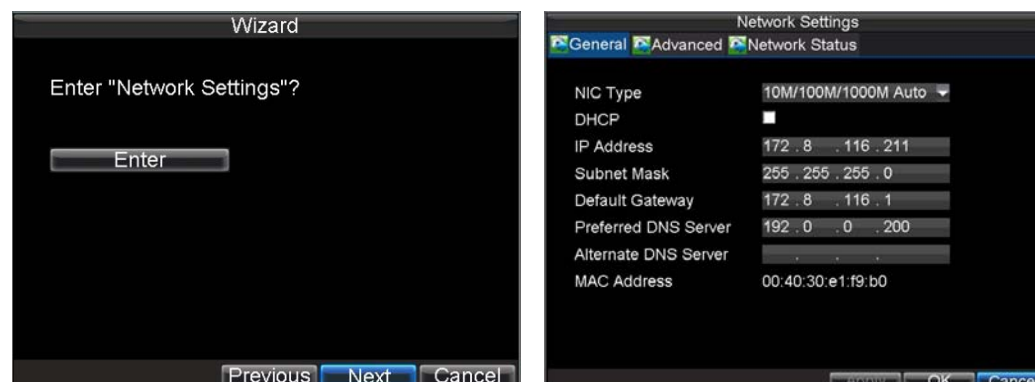

Figure 12. Network Settings
- 2) Click the Enter button to enter the **Network Settings** window, shown in Figure 12. If it does not need to configure the network settings, click Next to continue the Setup Wizard.